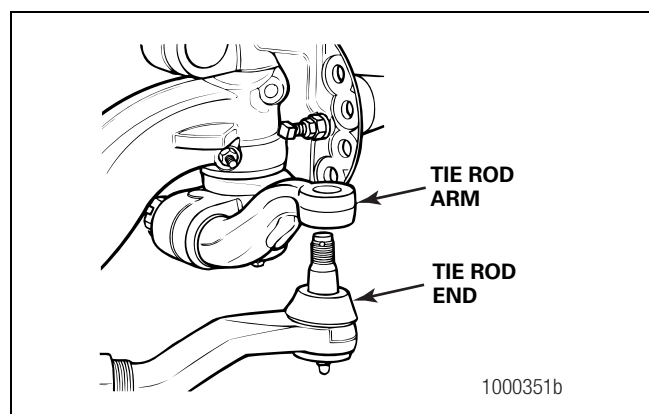

Figure 4.11
1. Remove the cotter pins and nuts that fasten each tie rod end to the tie rod arms. Figure 4.11.
2. Disconnect the cross tube assembly from the tie rod arms. If available, use a tie rod end puller to separate the tie rod end from the tie rod arm. Figure 4.11.